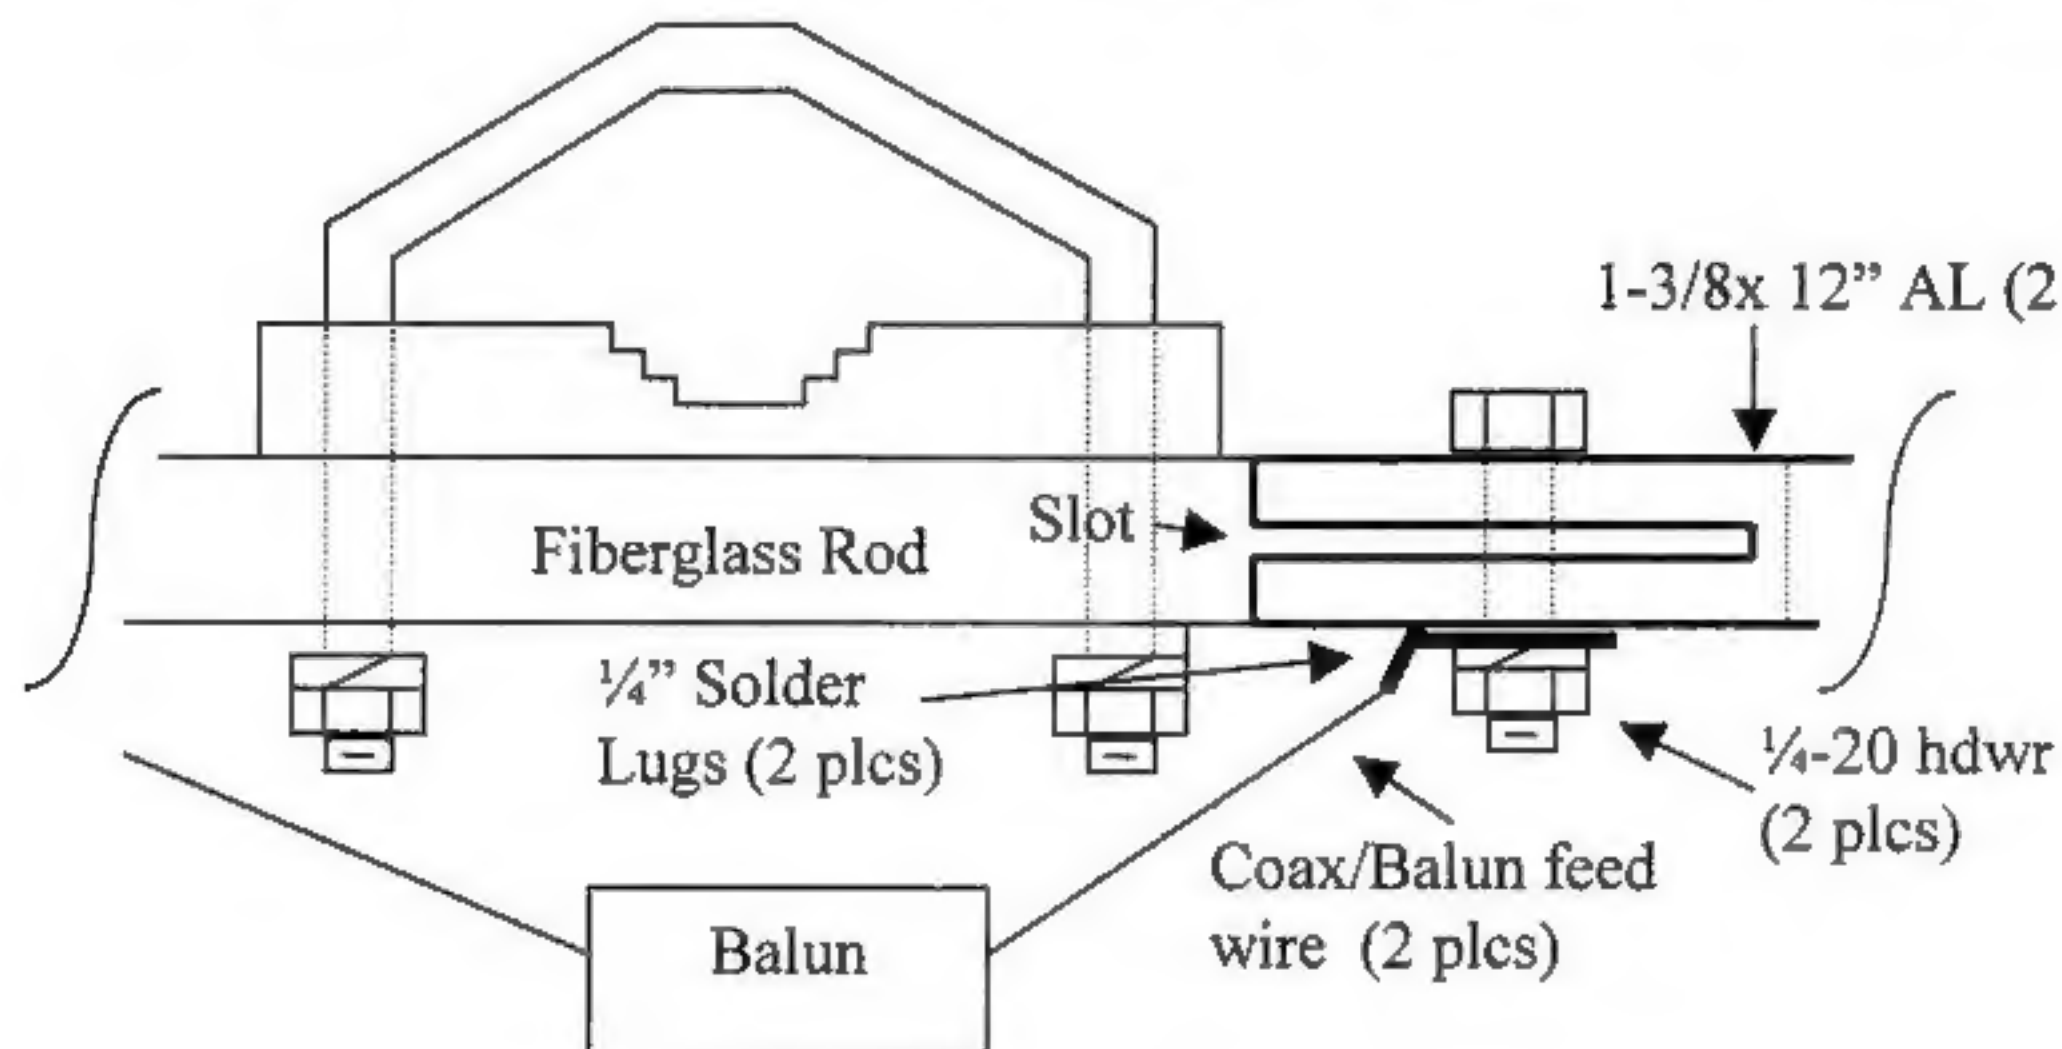

Figure 7: Balun/Feed Connections
- 11) Strip four inches of insulation from the end of your coax feedline. Separate the braid from the center conductor and install the 1/4" solder lugs on the shield and center conductor wire (solder in place). Coat the leads liberally with Liquid Electrical Tape™ and let dry. Once the Liquid Electrical Tape™ is dry, connect the feed to the 1/4-20 hardware as shown in Figure 7.